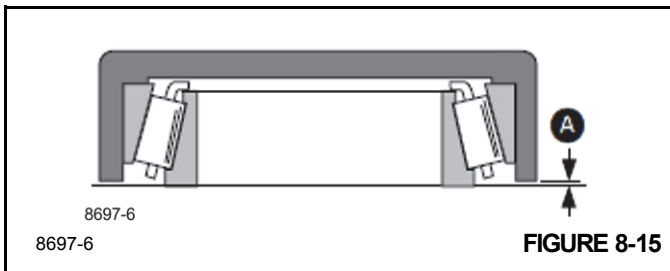

FIGURE 8-15
1. Place new pinion head bearing assembly on a flat surface and position service tool 892/00174 over the bearing. Measure gap A (Figure 8-15) (e.g. 0.20 mm)